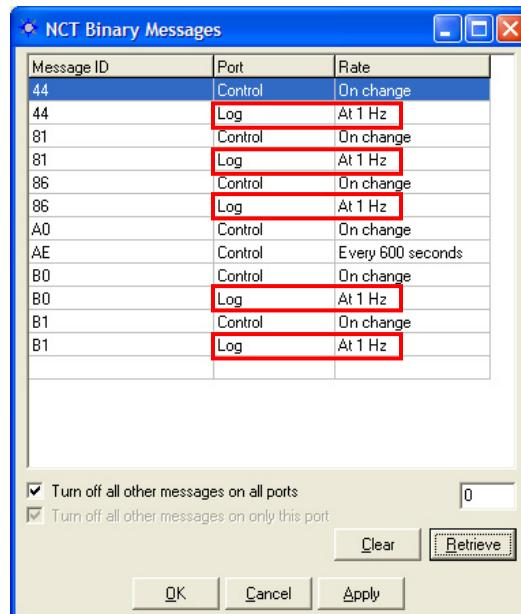

Figure 105: Log Messages Internally
- ✓ Repeat the steps above for desired message(s). Figure 105 displays examples of messages scheduled to be logged.